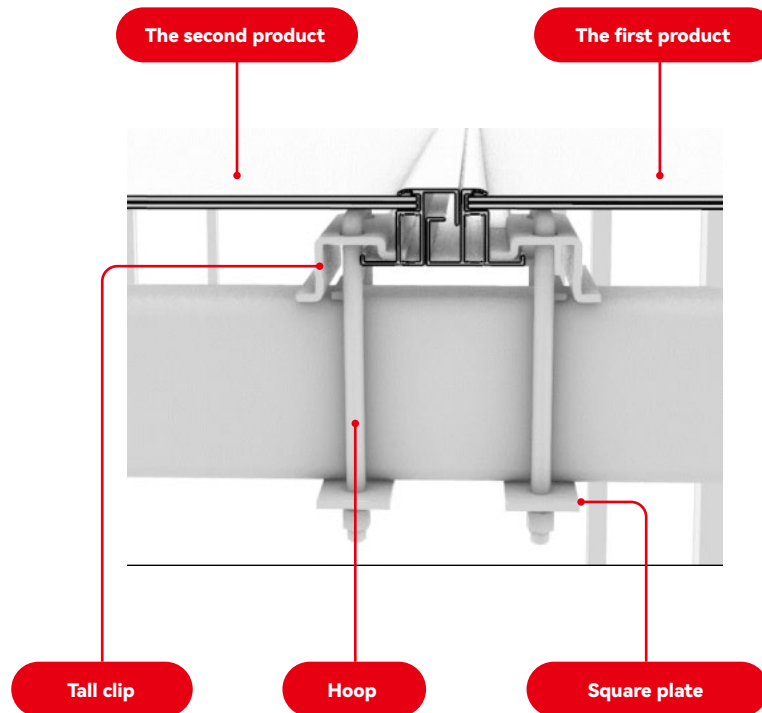

FIGURE 20
- Fix the fittings on the lower right of the product and the section view is as shown in Figure 20.